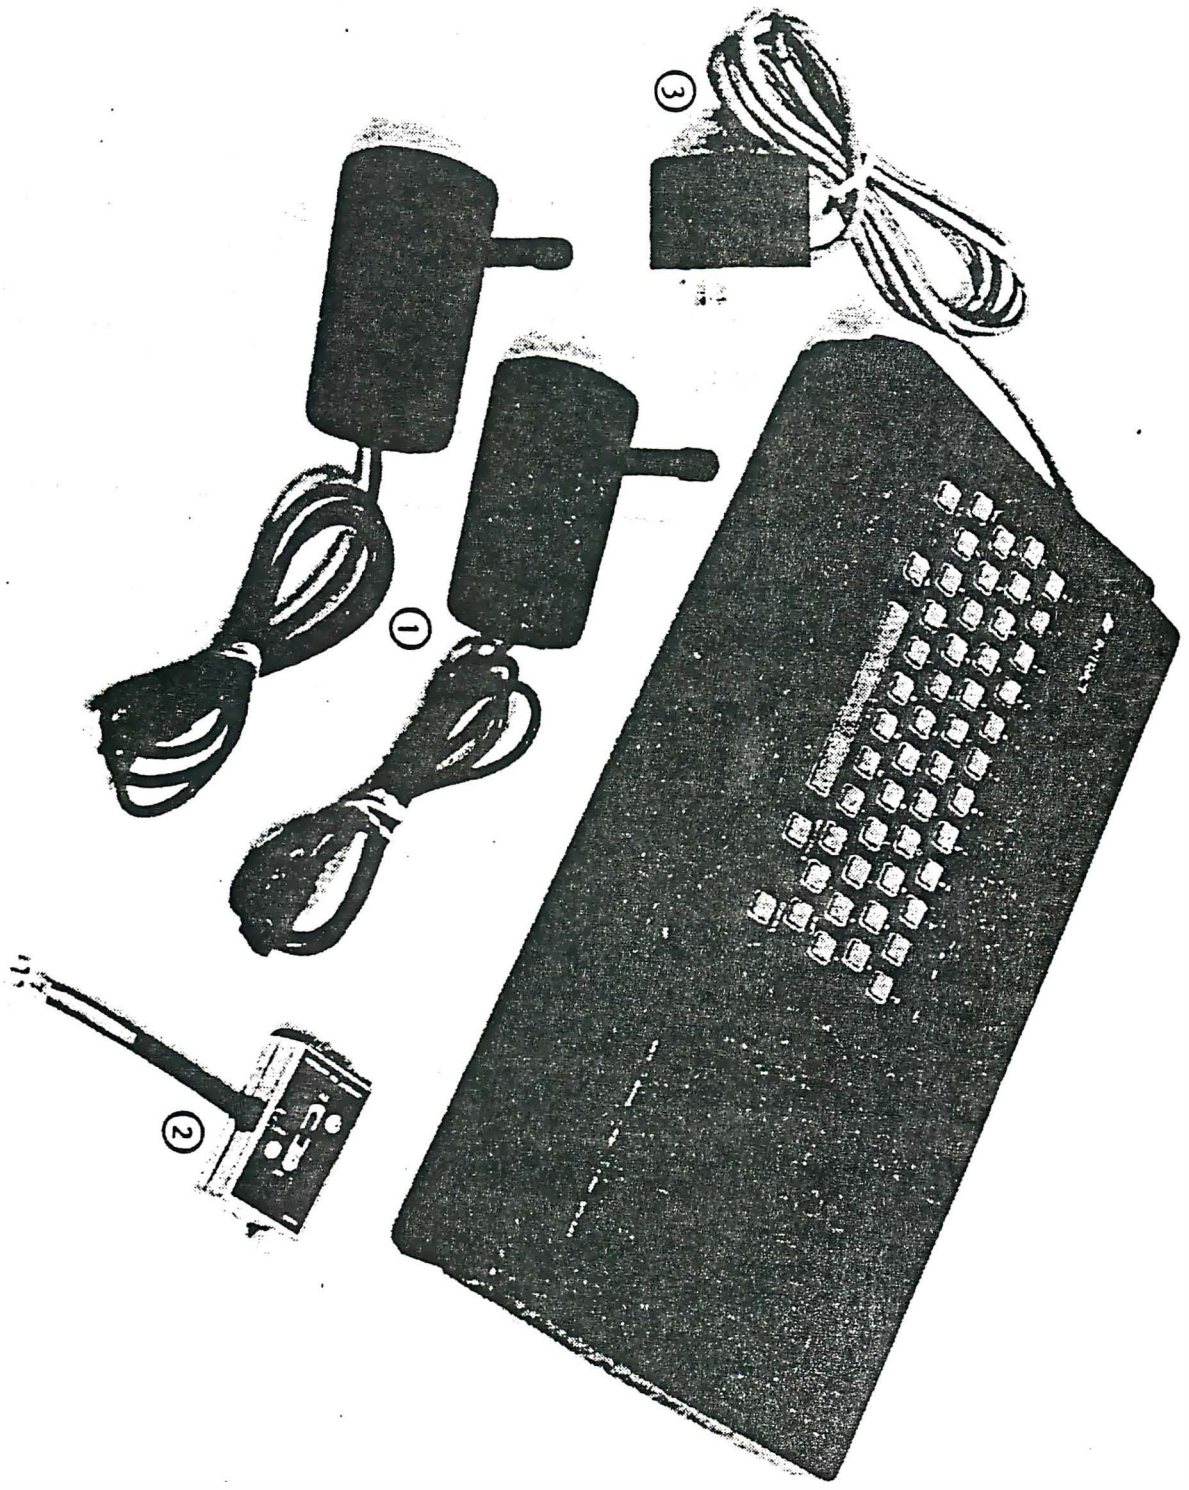

FIGURE 1--Assembled Model One Home Computer
The parts of the Model One system are identified in Figure 1. The remaining figures in this manual depict the disassembled modules. The basic eight modules are as follows:
1. Joystick assembly (1 of Figure 1)
2. Antenna switch box (2 of Figure 1)
3. AC power adaptor (3 of Figure 1)